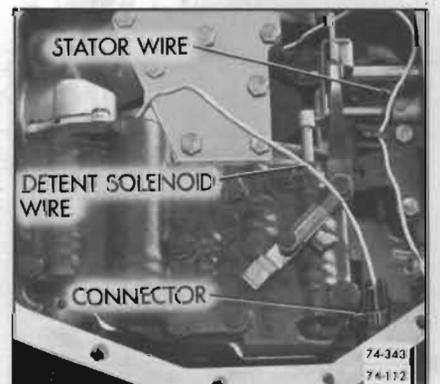

Figure 74-112
2. Remove stator solenoid wire from connector. See Figure 74-112.